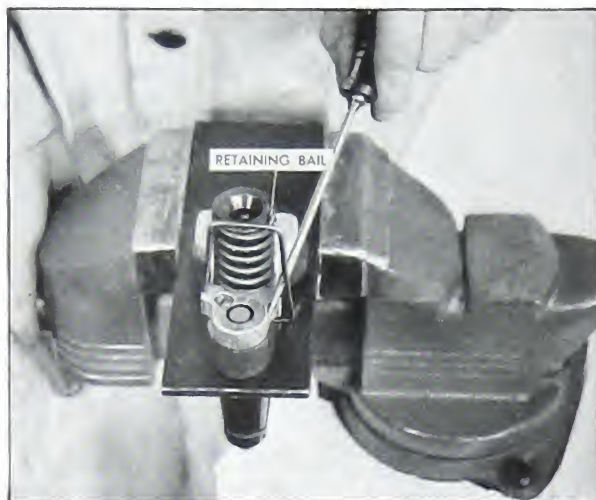

Fig. 6-8. Removing plunger retaining bail—Tractor type injector
6. With a screwdriver, pry the injector plunger retaining bail from the body. (Fig. 6-8).